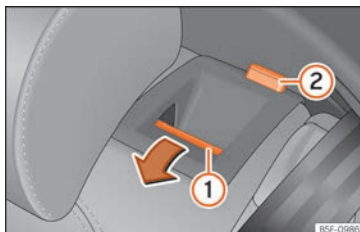

Fig. 105 Rear seat: folding the backrest.
- Press the unlock button »» Fig. 105 ① forwards and at the same time fold the backrest down. The rear seat backrest is not engaged when the red marking of the button ② is visible.
The rear seat backrest is not engaged when the red marking of the button >>> **Fig. 105** ② is visible.